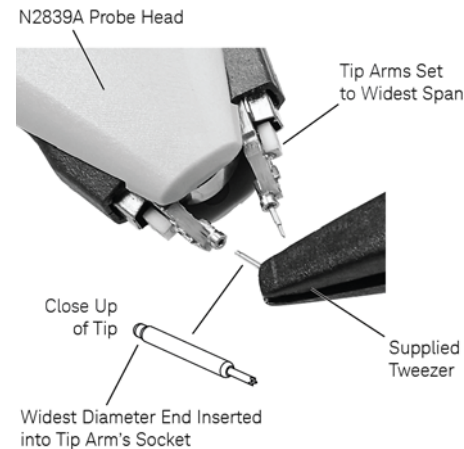

Figure 5 Inserting a tip
- 3 Pick up a new tip using the supplied tweezers. Identify the correct end to insert into the tip arm. See Figure 5. The end of the tip that has the widest diameter is inserted into the socket on the tip arm.